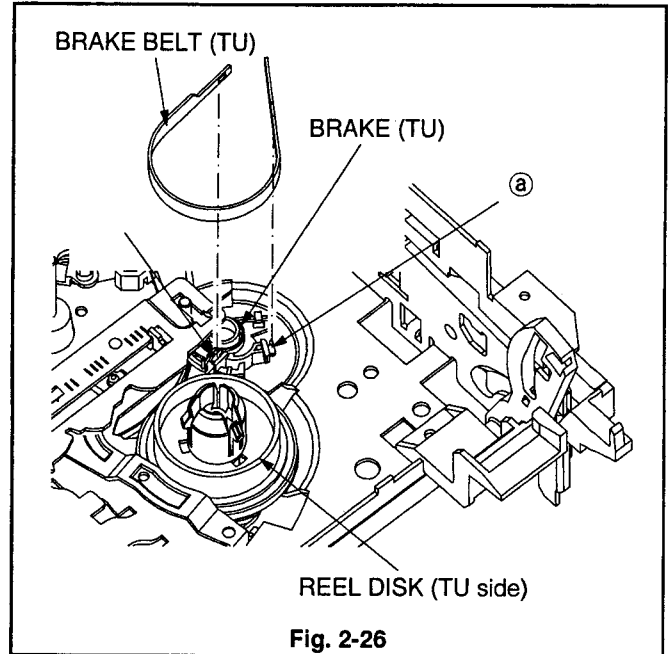

Fig. 2-26
1. Lift the BRAKE BELT (TU) shown in the Fig. 2-26 to remove it from the REEL DISK (TU side).
2. Release the two catches (a) of the BRAKE (TU) shown in the Fig. 2-26 to remove the BRAKE BELT (TU).
1. Install the BRAKE BELT (TU) shown in the Fig. 2-26 to the BRAKE (TU).
2. Hook the BRAKE BELT (TU) shown in the Fig. 2-26 to the REEL DISK (TU side).